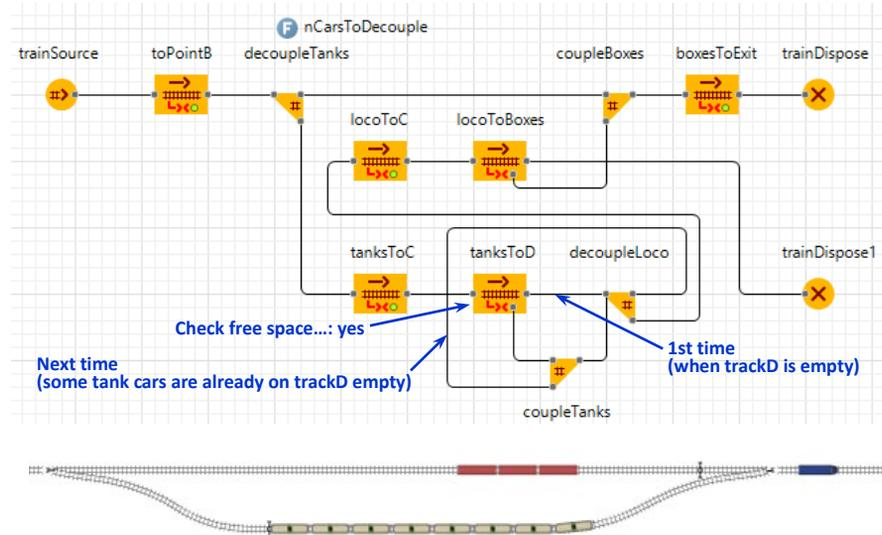

Figure 9.23 The tank cars are coupled on the departure track
24. Add one more block to the flowchart: **coupleTanks** of type **TrainCouple** and connect it as shown in Figure 9.23.